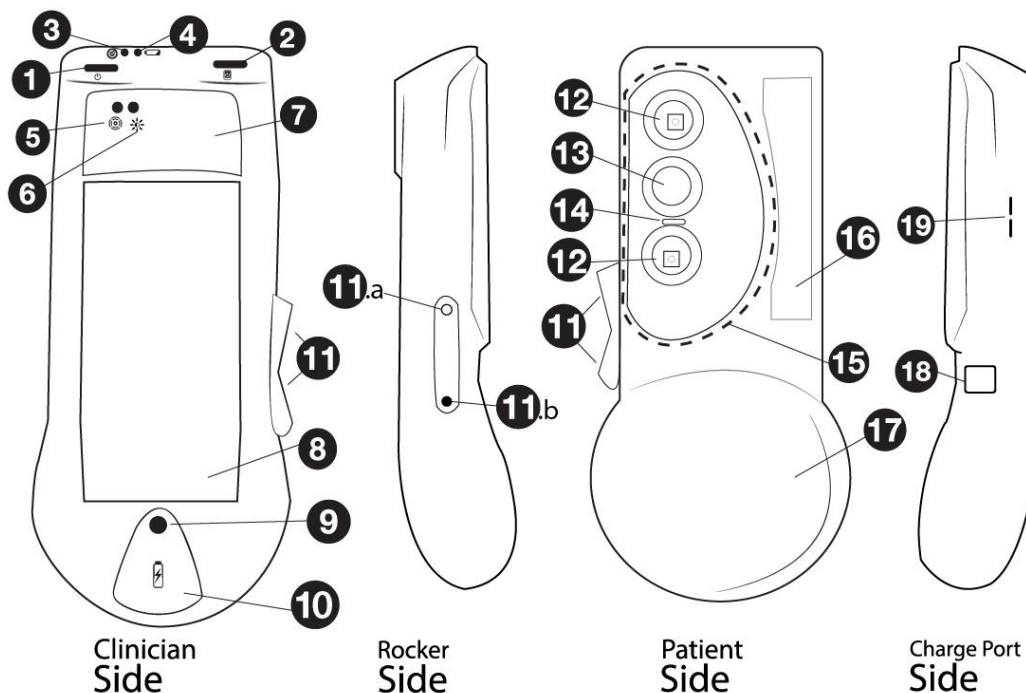

Figure 2: Clinician side, side views and Patient side of MolecuLight *i:X* Imaging Device
Do not point the laser (from the Range Finder sensor) into eyes (Figure 2, item 14).
-  **Caution** Keep the Illumination Zone clean and avoid covering the Violet Wavelength LEDs and camera sensor window with your fingers, as this may affect illumination and image quality (see Figure 2, item 15).